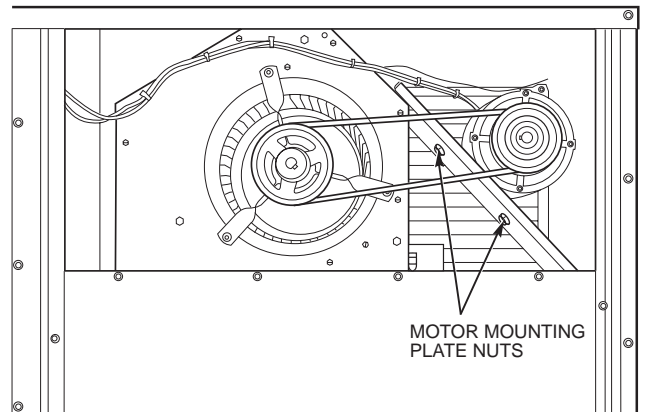

Fig. 40 — Belt Drive Motor Mounting
BELT-DRIVE MOTORS — Fan motor pulleys are factory set for speed shown in table 1. See Fig. 40 for belt drive motor location.
2. Loosen belt by loosening fan motor mounting nuts. See Fig. 40.